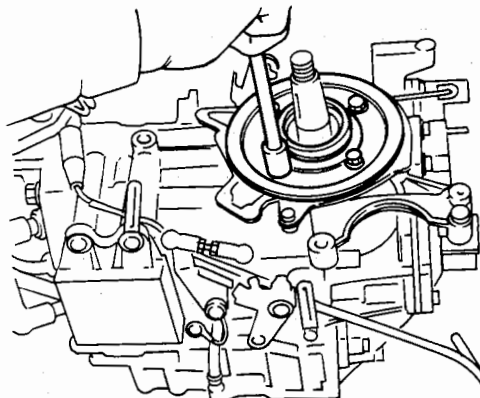

Fig. 29 Removing the guide plate
- 9) Remove the guide plate installing bolts (H620-4) and remove the guide plate and set ring (tightened together with the magneto base). (Fig. 29)